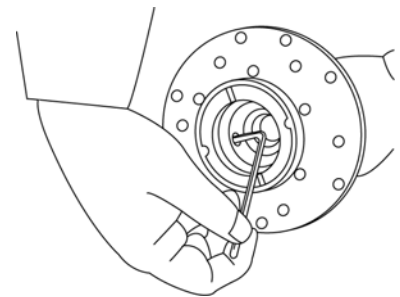

Figure 13
- To disassemble impeller and magnet capsule assembly, turn the locking pins counter clockwise 90 degrees using a slotted screw driver and then push it towards the inside of the impeller. [Fig. 12] If it is hard to push it out, slightly tap the end of the screwdriver handle. If the screwdriver cannot be used because the groove of the pin was crushed, turn the pin from inside of magnet capsule using hex wrench. [Fig. 13] When doing so, turn the wrench clockwise. After turning the pin, push it in from the outside using a screwdriver or drive pin.